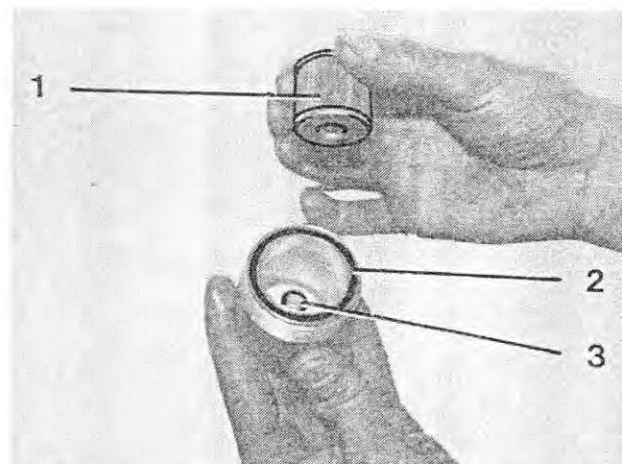

Fig. 79
5. Check whether the gasket (Figure 79/2) is in a good condition and properly seated. Replace it, if necessary. Fill the collecting vessel and the filter element completely with grease. Place the closed lower side (Figure 79/1) of the filter element on the spring (Figure 79/3) in the collecting vessel and screw in the collecting vessel.